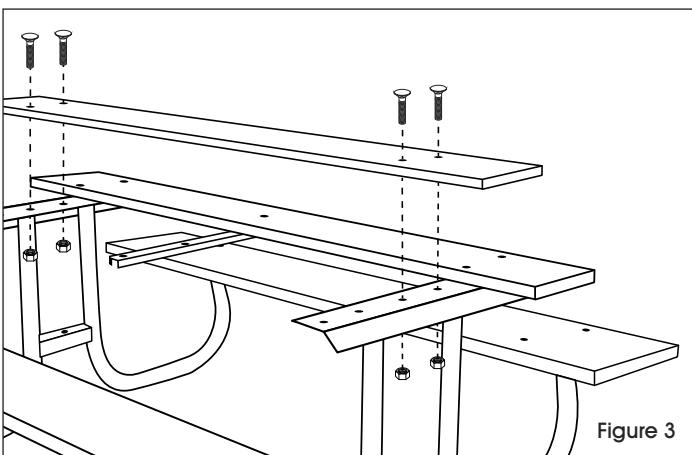

Figure 3
5. Attach the inside table top board to the frame using 2 $\frac{1}{4}$ " carriage bolts, lock washers and hex nuts. (See Figure 3)